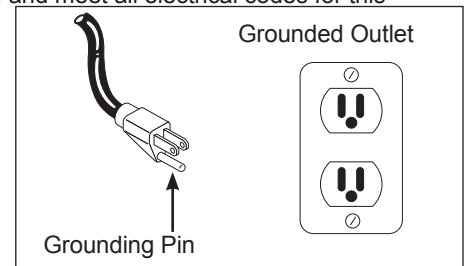

Figure 3 - Grounding Method
3. This product is for use on a nominal 120 volt circuit and has a grounding plug that looks like the plug illustrated in Figure 3.